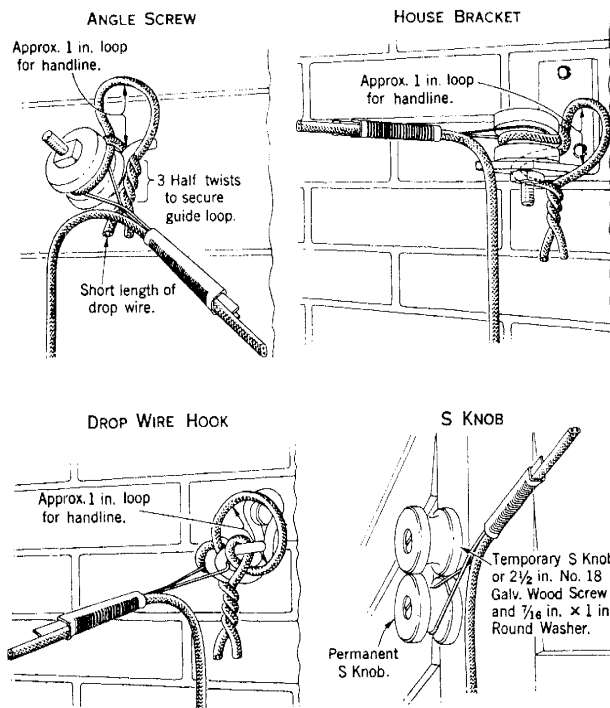

Fig. 2 – Temporary Guide Loop
- (1) Remove the C knob or the SC wire clip and the associated loop of drop wire from the first building attachment. Do not remove the drop wire clamp which supports the wire span.
(2) Attach a temporary guide loop to the first building attachment, such as shown in Fig. 2, to prevent the handline used in releasing the excess tension from becoming accidentally disengaged from the building attachment.
(3) Place a temporary drop wire clamp on the wire to be lowered, about one foot out in the span. Seat the clamp firmly on the wire.
(4) Place a handline over the first building attachment and through the temporary guide loop. Tie the handline securely to the tail of the temporary drop wire clamp.
(5) Return to the ground. Pull the handline sufficiently taut to remove tension from the original drop wire clamp and lash the handline to a substantial and secure support near the base of the building.
(6) Check to ensure that the tension in the drop wire span has been removed from the tail of the original drop wire clamp.
(7) Cut the tail of the original drop wire clamp with pliers.
(8) Return to the ground. Untie the handline and slowly ease off the handline, thereby releasing excess tension in the taut drop wire span. Retie the handline to a substantial and secure support near the base of the building.